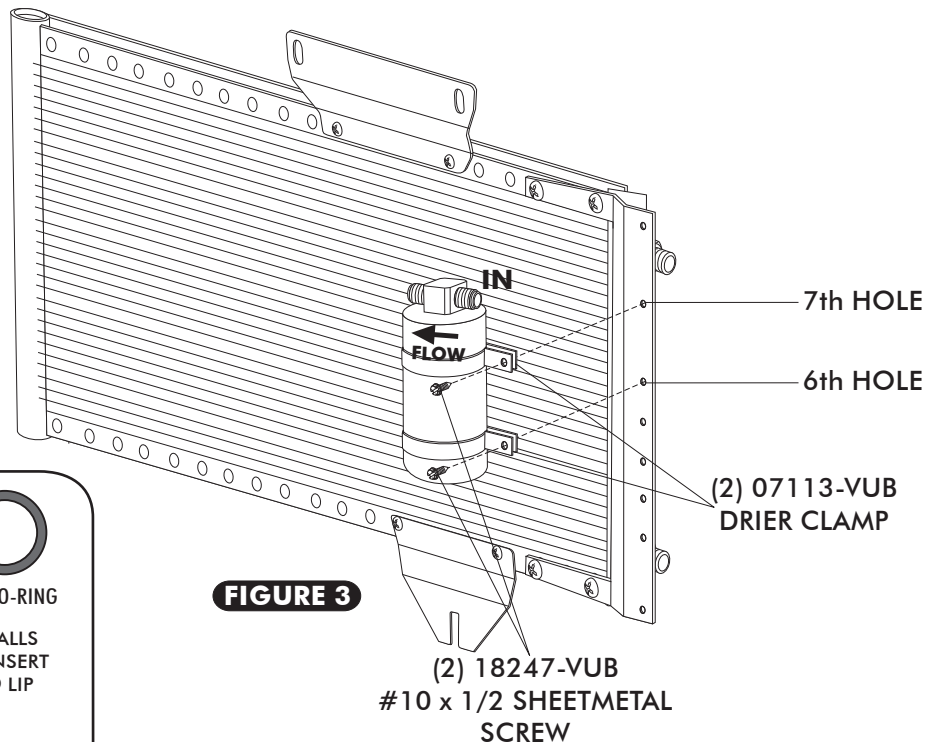

FIGURE 3
- ☐ INSTALL DRIER CLAMPS ON DRIER AS SHOWN IN FIGURE 3.
- ☐ USING (2) #10 X 1/2 SHEETMETAL SCREWS, INSTALL DRIER ON BRACKET IN THE 6TH AND 7TH HOLES FROM THE BOTTOM OF BRACKET AS SHOWN.